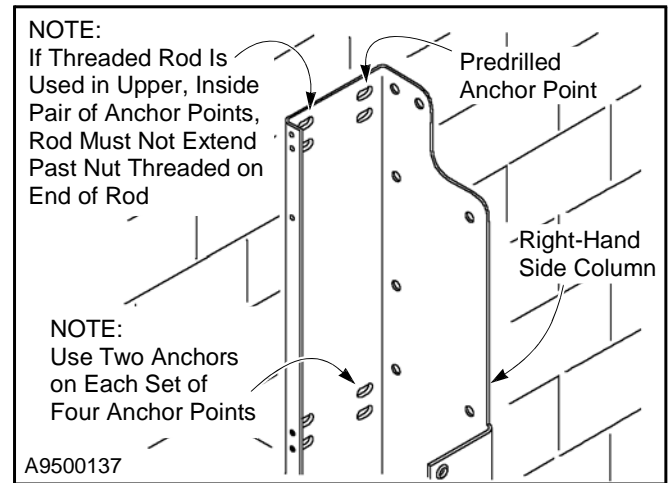

Figure 15
5. Using the predrilled anchor points in the back of the column as a reference, mark their location on the wall. (See Figure 15.)